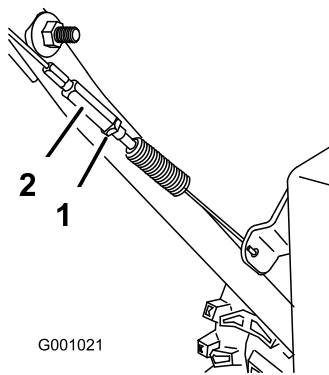

Figure 48
3. Tighten the jam nut (Figure 48).